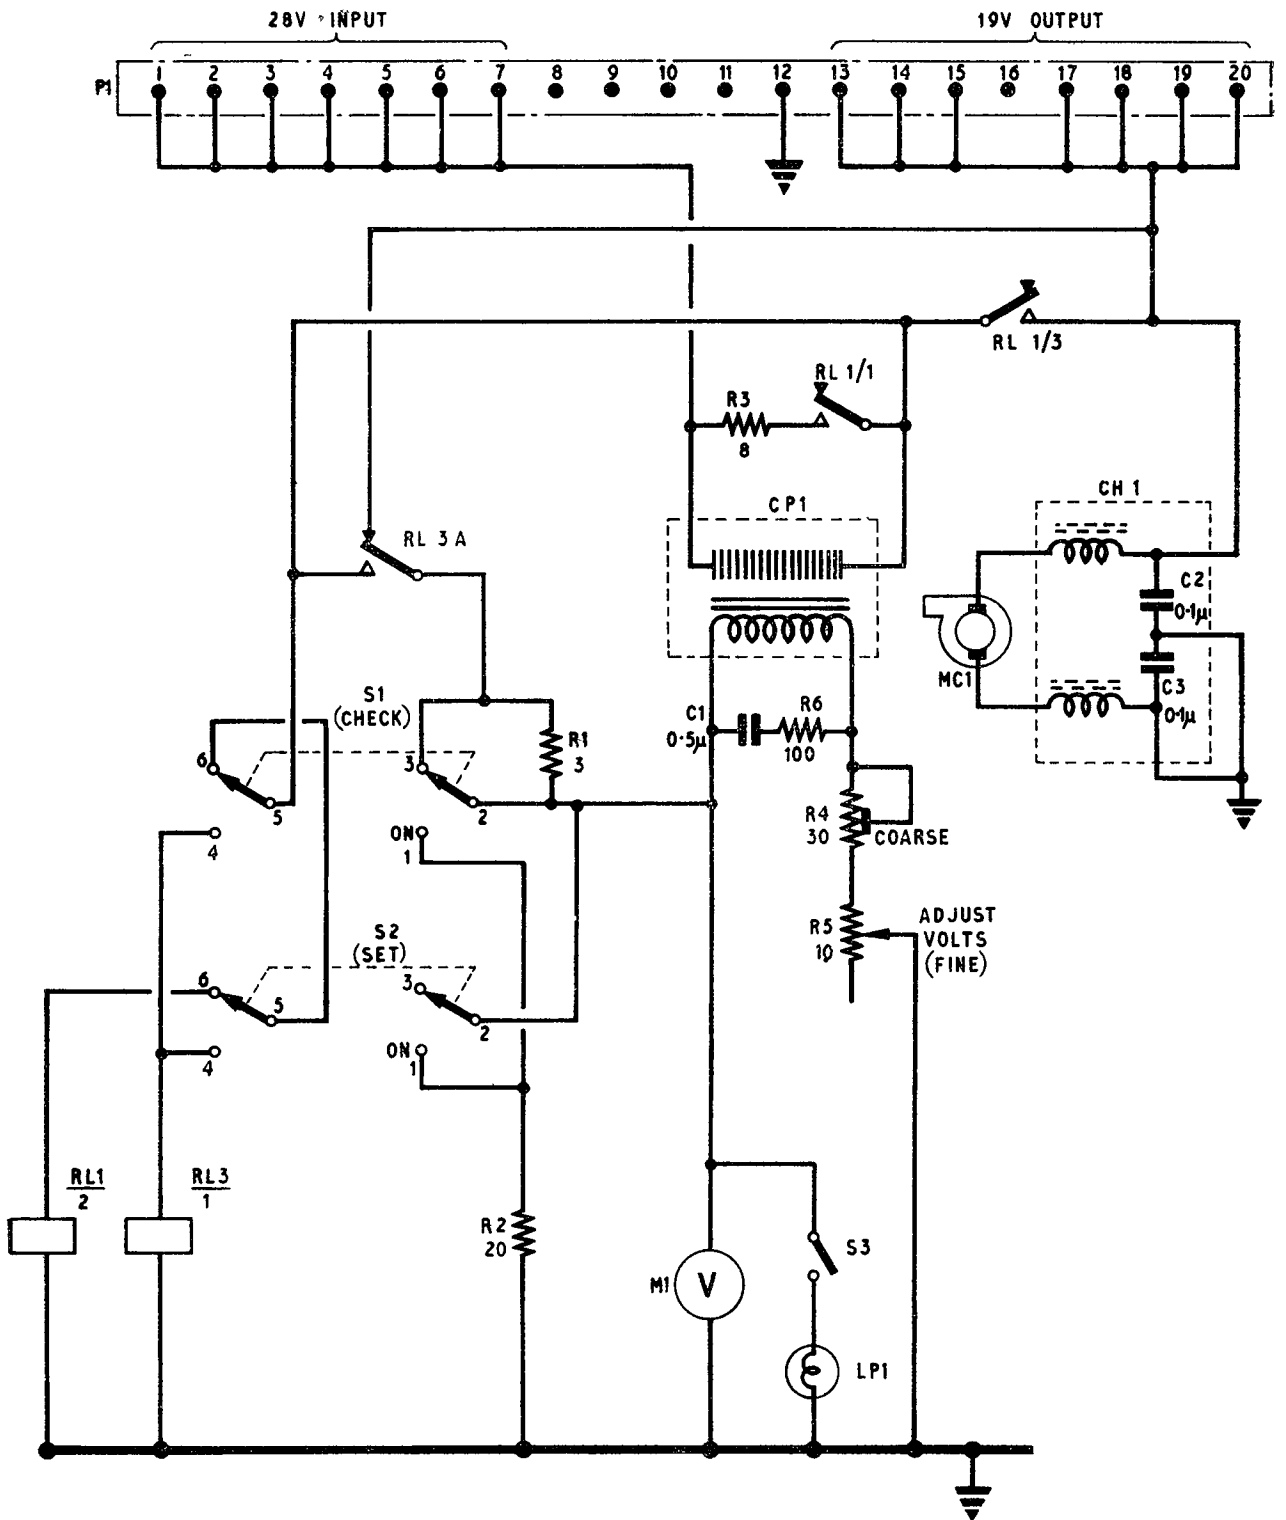

Fig. 3. Voltage regulator—circuit
6. Reference to fig. 3 will show that when the aircraft positive supply is fed to the carbon-pile (via P1 pins 1 to 7) the main output relay (RL1) is energized. One pair of its contacts RL1/1 and RL1/1A are used to connect a resistor R3 in parallel with the carbon-pile. The object of this resistor is two-fold (1) it acts as a spark quench for the carbon-pile if the output current is of too low a value; (2) it modifies the resistance characteristics of the carbon-pile.